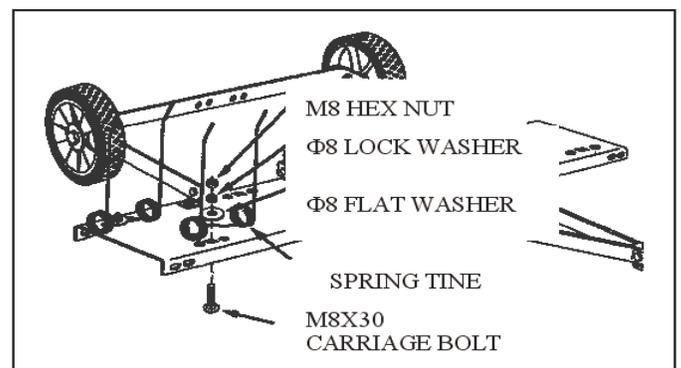

FIGURE 7
13. Fasten ten spring tines to the square holes in the bottom of the tine shield. Use a M8x30 carriage bolt, $\Phi 8$ flat washer, M8 lock washer and M8 hex nut for each spring tine. Tighten. See figure 7. NOTE: Spring tines must seat between dimples.